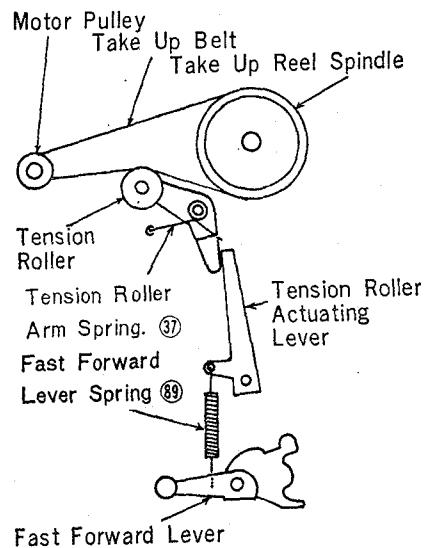
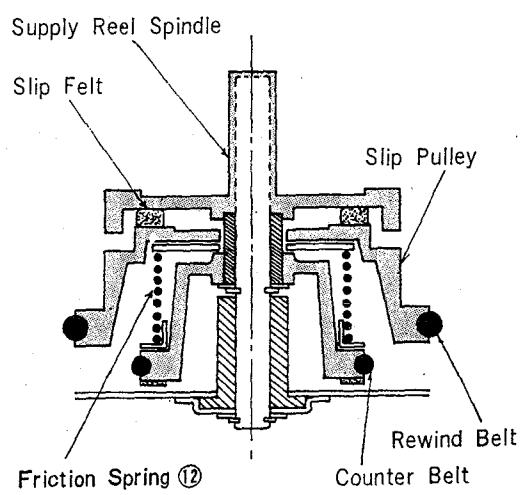

Figure 11
Figure 12
- B. If tension is not within the above range, make the following adjustments. (Refer to Figure 11 and Figure 12)
- a. If the torque is too strong, loosen or replace Tension Roller Arm Spring (37) and if too weak, tighten or replace it.
- b. If the torque is too weak, tighten or replace Fast Forward Lever Spring (89)